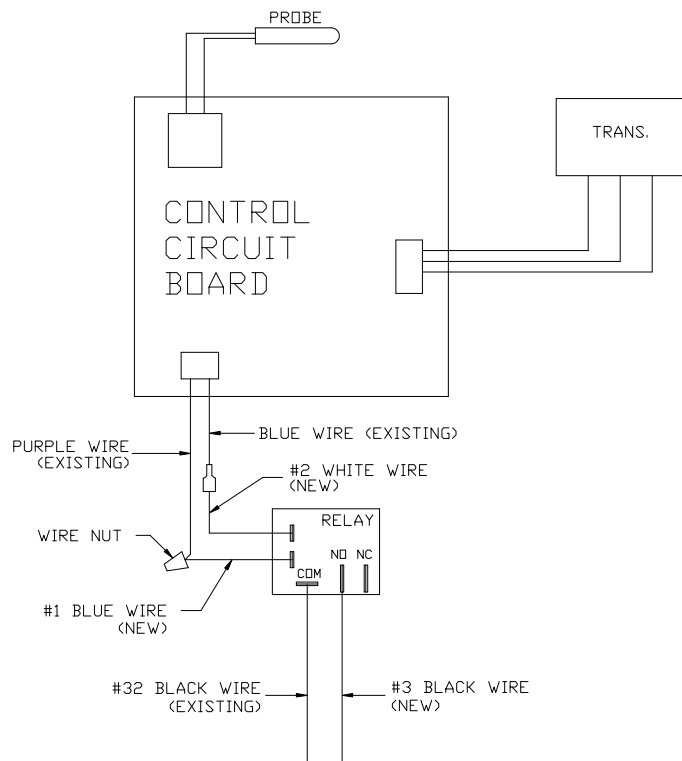

FIG. 1
CONTROL CIRCUIT BOARD REPLACEMENT (FIG. 1):
9. ATTACH NEW WIRES #1, #2 AND #3 TO RELAY (SEE FIG. 1)